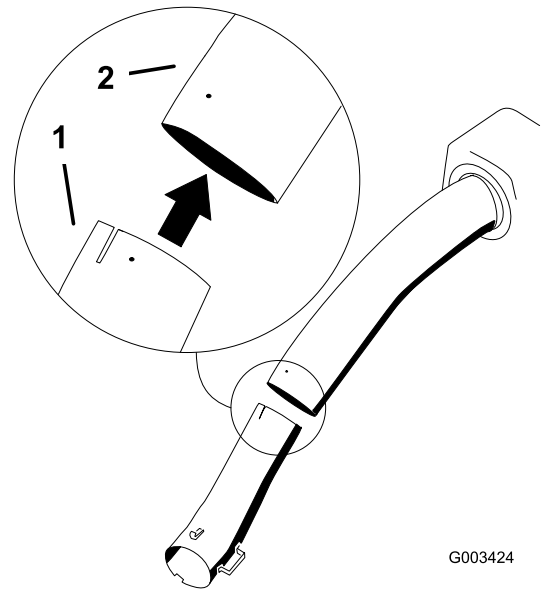

Figure 17
5. Install the lower tube into the upper tube (Figure 17).